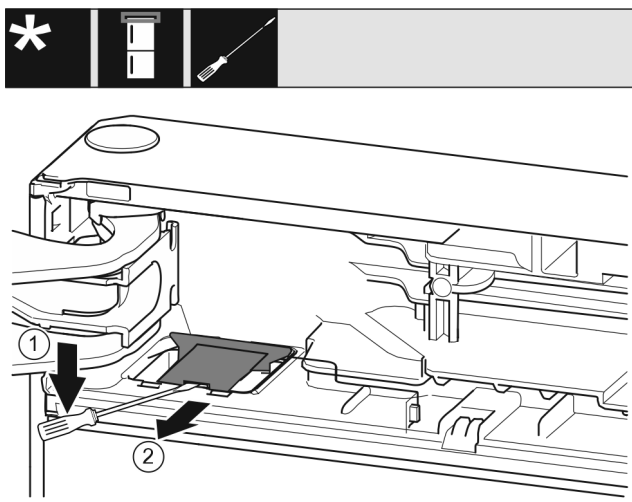

Fig. 9
- Unlatch the cover with a slotted screwdriver and lift it up. *Fig. 9 (1)*
- Take out the cover. *Fig. 9 (2)*